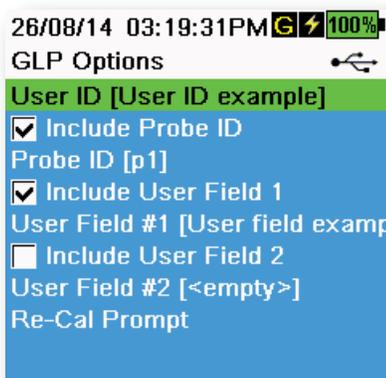

Figure 12 GLP Options
- Other user-specific identification (User Field #1 and #2) (Figure 12)